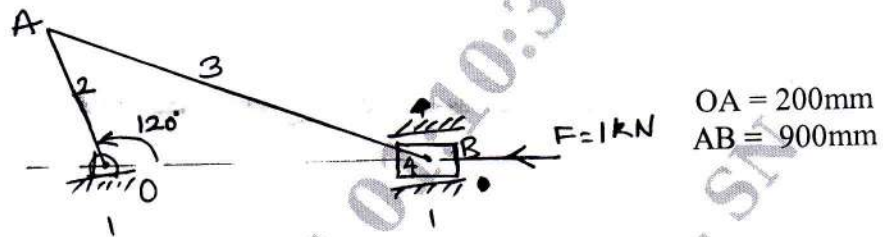

Fig Q4(b)
- b. A slider crank mechanism shown in Fig Q4(b). The force applied to the piston 1kN when the crank is at 120° from inner dead centre. Determine the input torque T , on link OA.